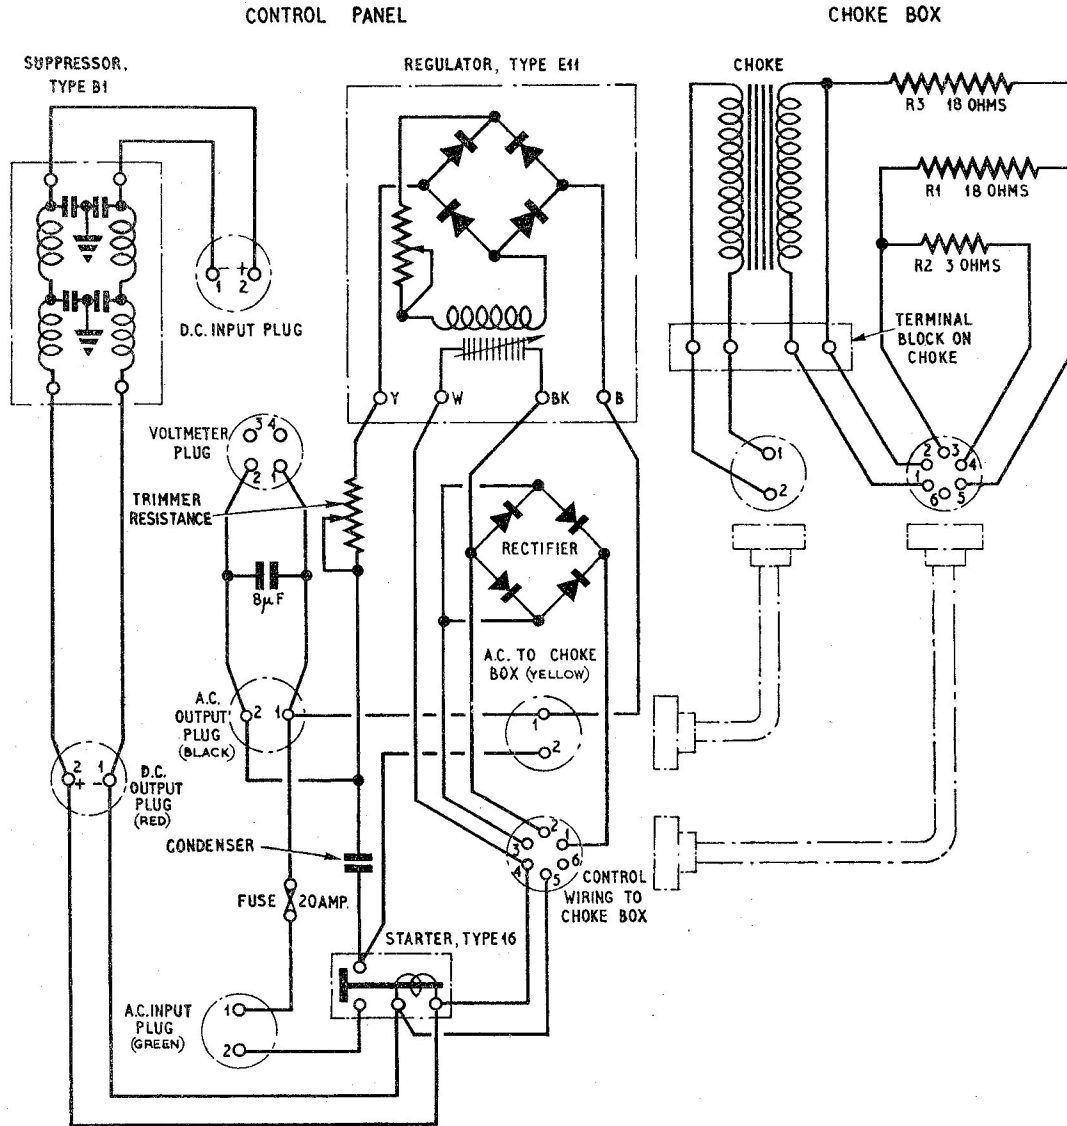

Fig. 1. Circuit diagram
2. The control panel, Type 6B, used with special radio equipment, is very similar to the earlier Type 6, but incorporates an additional 8 μ F capacitor, connected as shown in the circuit diagram in fig. 1. The control panel is always used with the choke